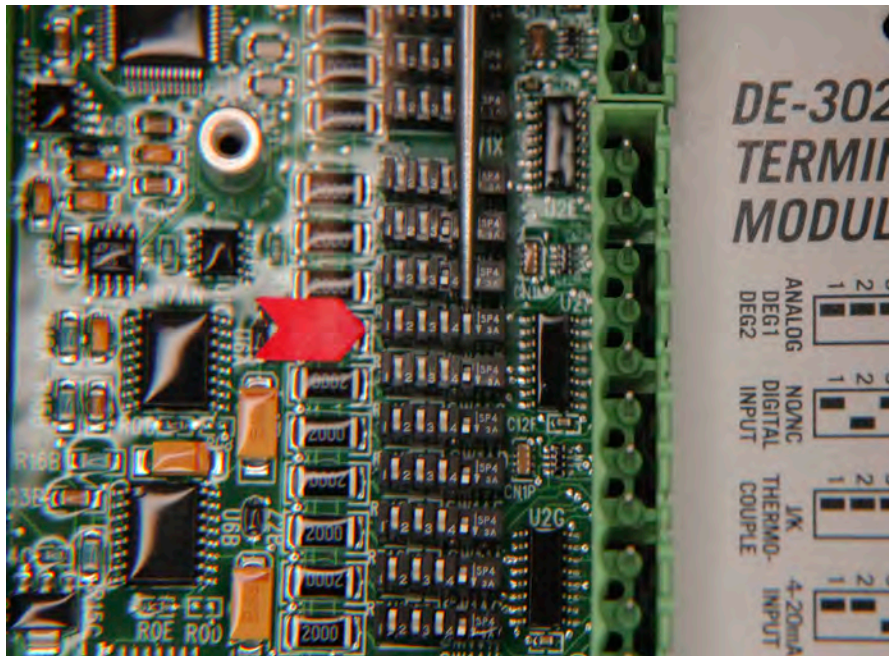

Figure 4
8. Gently move switch position 4 down or in the direction of the arrow (figure 4).